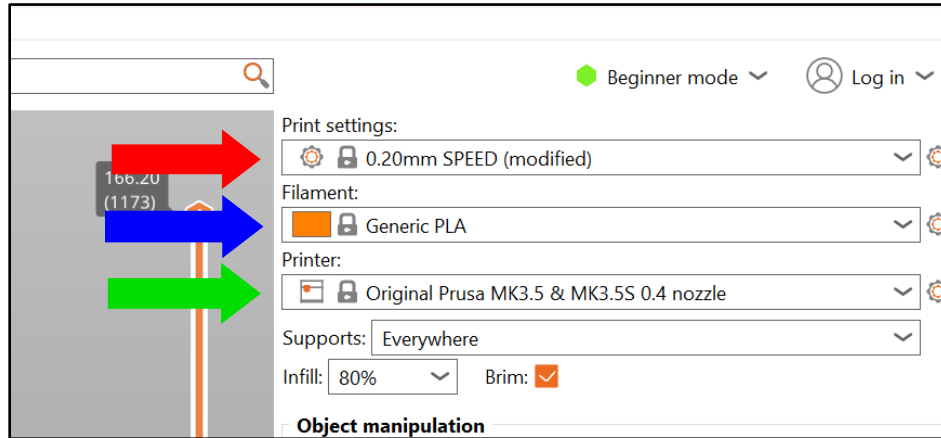

Figure 4. Main Plate Settings.
5.) Go back to the “Plater” tab in the top left corner of PrusaSlicer. Then click the “Print settings” drop-down menu and select the 0.20mm SPEED (modified) option (see red arrow in Figure 4).
- 6.) Open the Filament drop-down menu (see **blue** arrow in Figure 4) and select the filament type you want to print in.
- 7.) Open the Printer drop-down menu (see **green** arrow in Figure 4) and select your printer make and model.